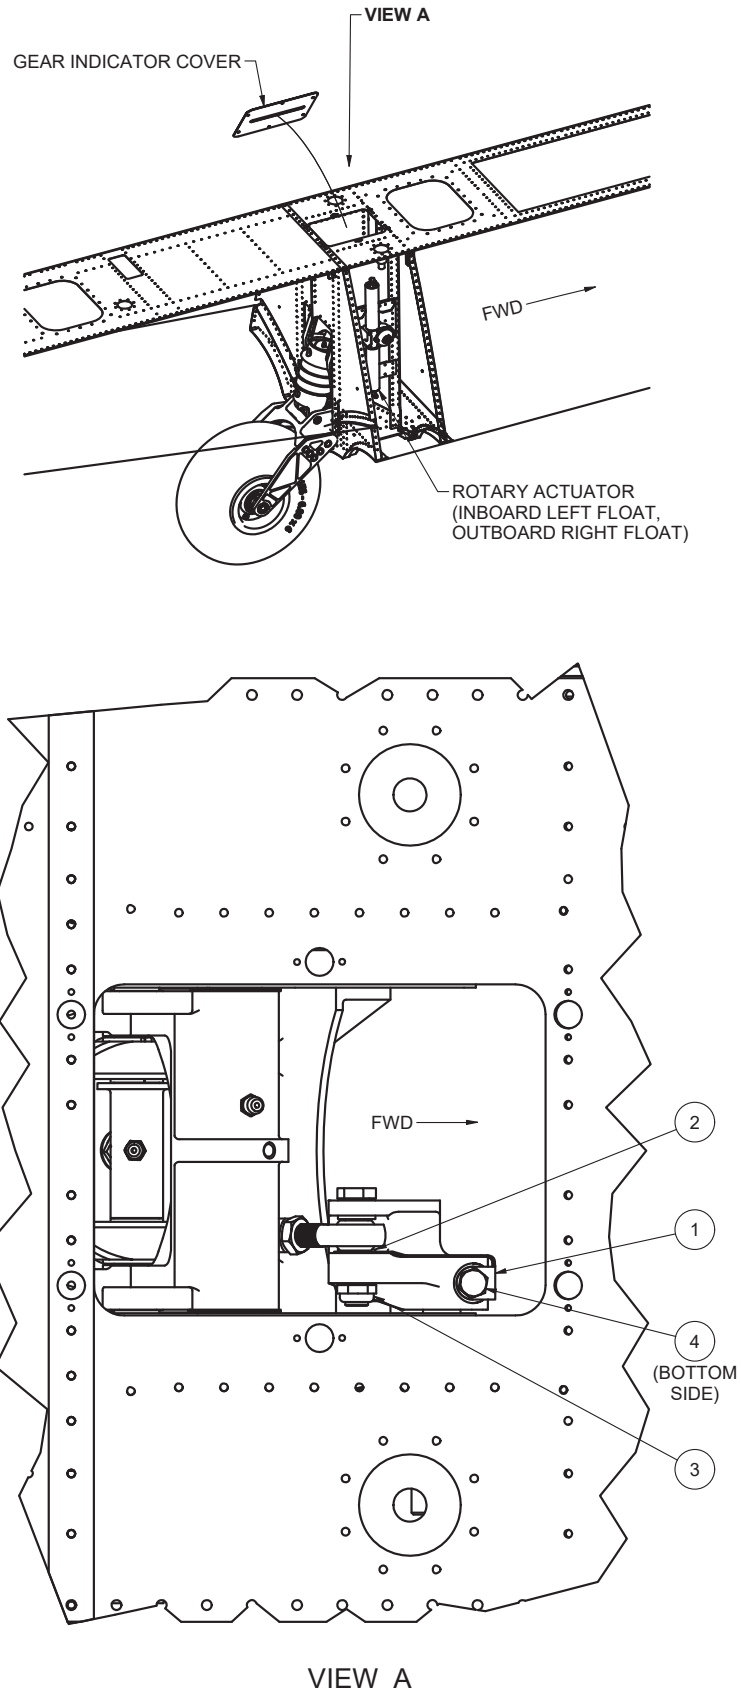

Figure 1
- Note:** Refer to Figures 1 and 2 for steps 3-9.
7. Position retainer (item 1) as shown.
- a. 0.032"-thick washer (item 2) in place of previously installed 0.063"-thick washer at location shown.
- b. New locknuts (items 3, 4).